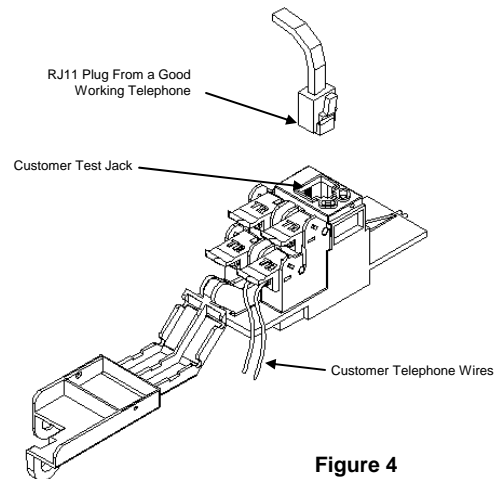

Figure 4
- Using a working telephone, insert telephone RJ-11 plug into customer test jack (see Figure 4).